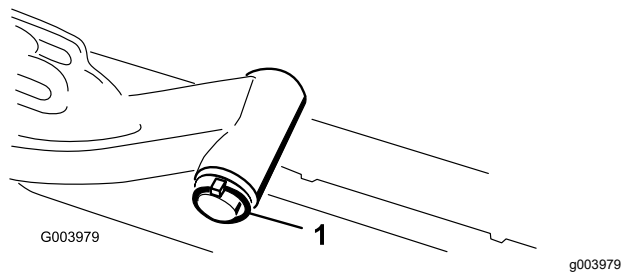

Figure 11
- C. Insert the lift-arm shaft into the lift arm and secure it with the washer and lynch pin (Figure 11).